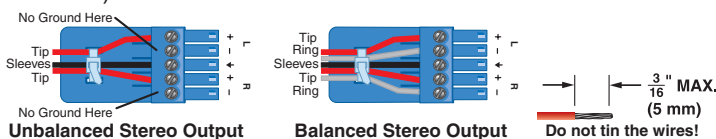

Figure 2. Audio Wiring Diagrams
- b. Connect an audio output device to the Audio 5-pole captive screw port (**C**) (see figure 2 to wire the captive screw connector).